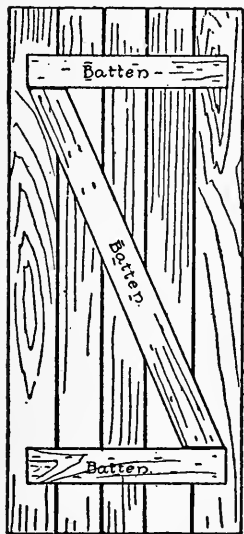

FIG. 189.—A Batten Door.
**Make a Batten Door**, fastening the boards together on the inside with battens as shown in Fig. 189, with the nails driven through from the outside face and clinched upon the battens. Hinge the door to the inside face of the jamb with strap-hinges, and either buy an iron latch for it or make the old-fashioned